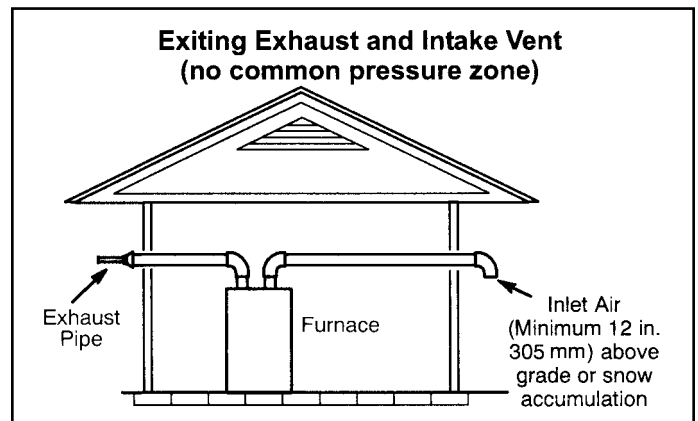
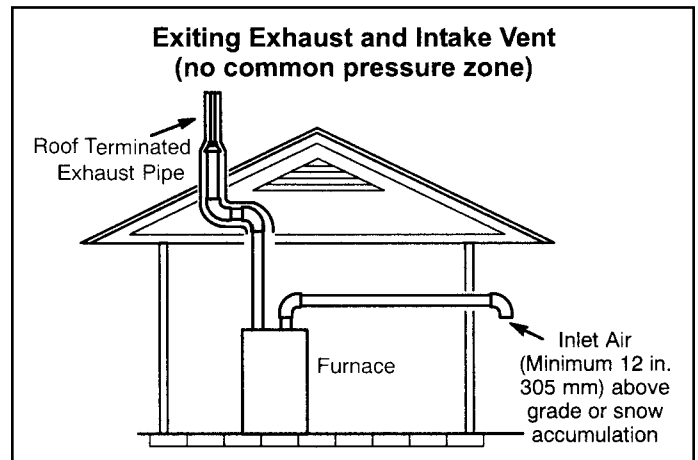

Figure 32.
Figure 33.
NOTE - If insulation is required in an unconditioned space, it must be located on the pipe closest to the furnace. See Figure 33.
- Vent terminations are not required to be in the same pressure zone. You may exit the intake on one side of the structure and the exhaust on another side (Figure 32). You may exit the exhaust out the roof and the intake out the side of the structure (Figure 33).